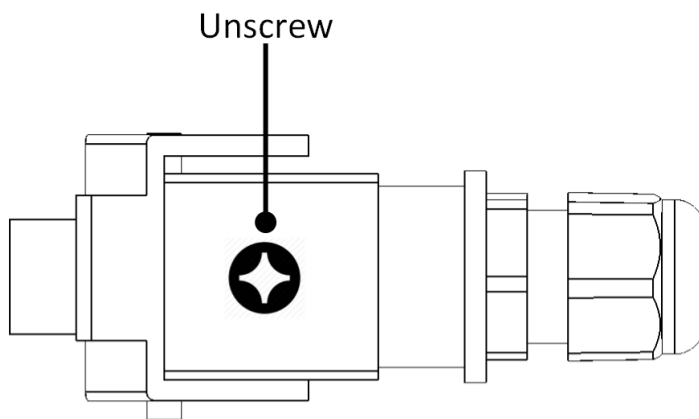

Figure 1: Protective Cover
2. On the female plug, remove the retaining screw from the protective cover (Figure 1).